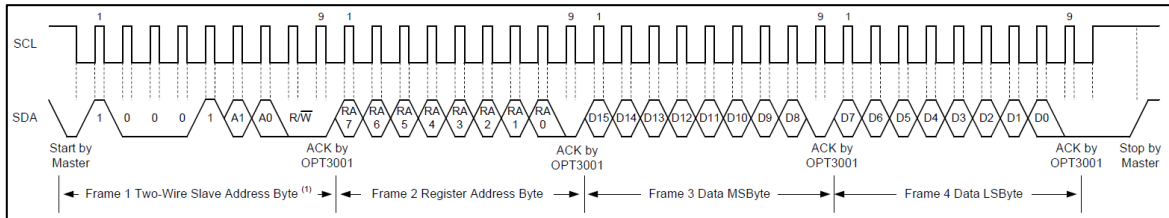

Figure 2 - A diagram of an i2c write transfer from the master to slave device of the OPT3001 light sensor.
- (a) Using **Figure 2** and the tables above as a guide, indicate the bytes in order of first to last byte (left to right) being transmitted to the sensor to perform a write operation of the configuration register of the OPT3001 to configure the sensor to operate at a fixed scale range if maximum values can be up to 500 Lux. Also configure the sensor to operate in continuous conversion mode with a conversion time of 100ms and have the interrupt (INT) pin as active high. All other settings of the configuration register should be preserved and unchanged.
- (b) Using **Figure 2** and the tables above as a guide, if the configuration register was read as 0xCE13, what does this indicate has occurred within the sensor?